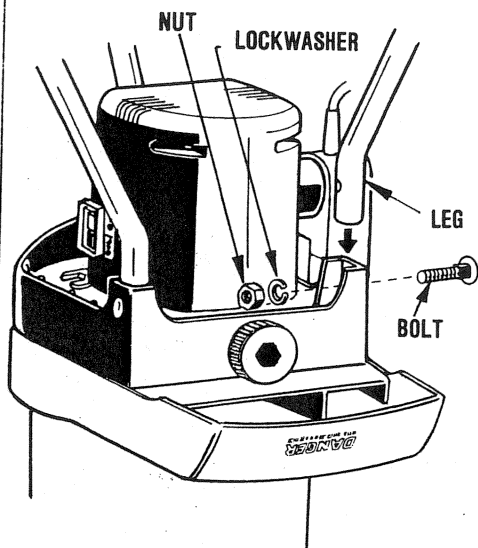

FIGURE 2
2. Taking the bolts, nuts and washers provided, secure the legs in the base of the unit, ensuring the legs are pointing outward. (See Fig. 2)